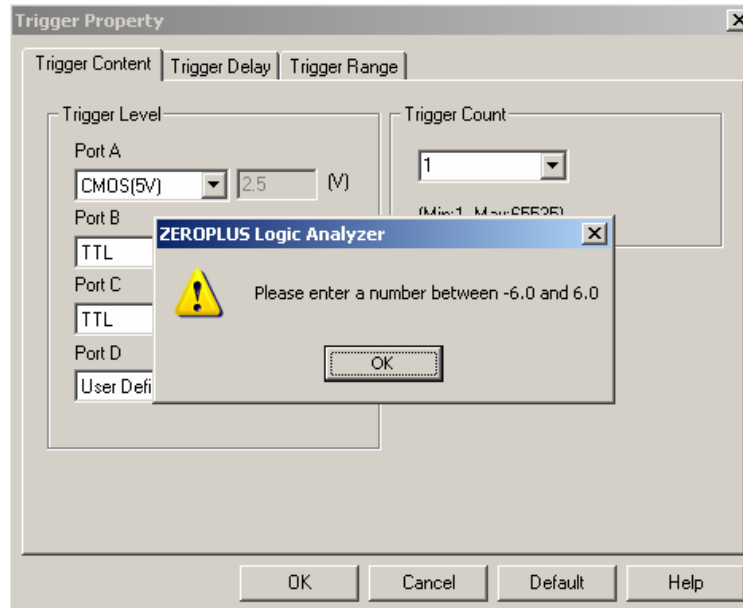

Fig 4-5 – Trigger Level Error
**Tip:** There are four commonly used preset voltages for Trigger Level, TTL, CMOS (5V), CMOS (3.3V), and ECL. Users also can define their own voltage from -6.0V to 6.0V to fit with their DUT, if the number users define is not in the range, the Fig 4.5 dialogue box will appear.